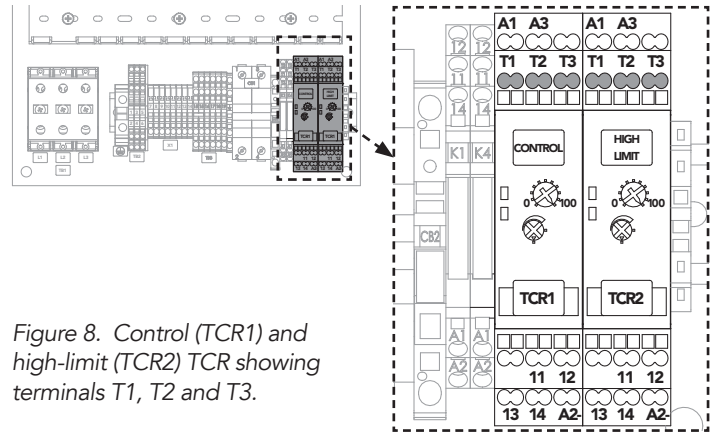

Figure 8. Control (TCR1) and high-limit (TCR2) TCR showing terminals T1, T2 and T3.
3. Using the ohmmeter, measure the resistance between TCR terminals **T1** and **T2** (See Fig. 8):